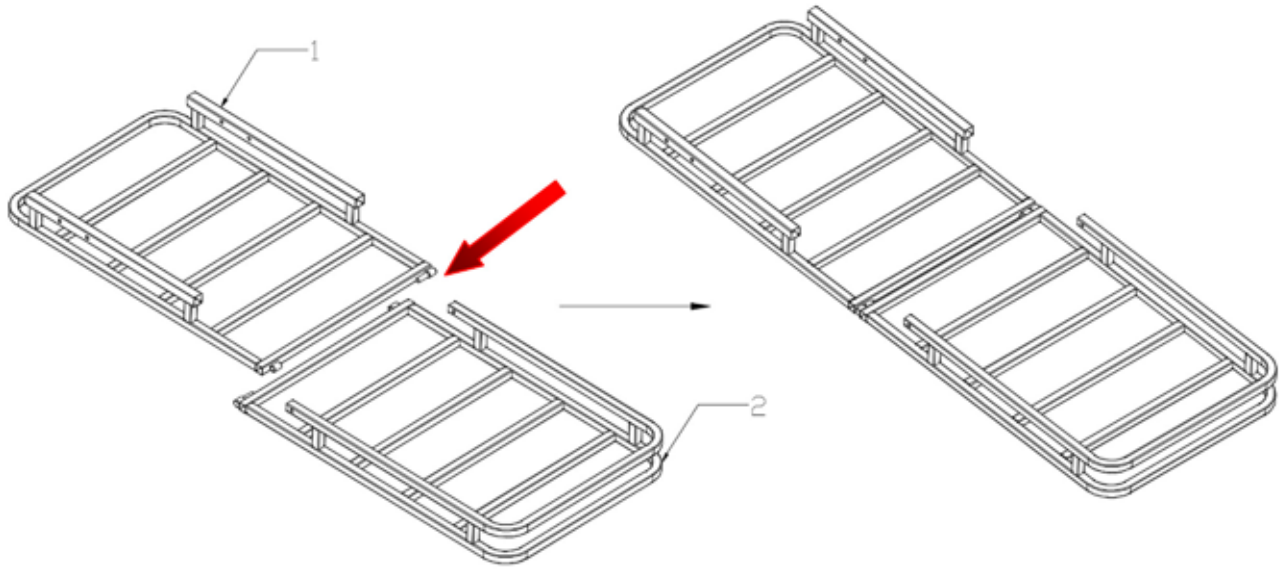

FIG: 1
1. Install the left carrier frame (1) along the arrow direction. Fit the rotary shaft and axle sleeve together with the right carrier frame (2). See FIG 1.